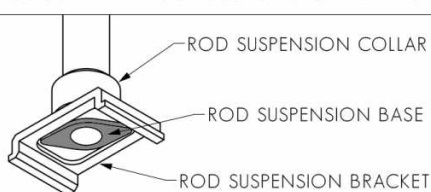

FIG. 4 - ENSURE SUSPENSION RODS ARE TIGHTLY SECURED
6. LIFT LIGHT ASSEMBLY AND INSERT SUSPENSION RODS INTO CEILING BRACKETS, STARTING WITH THE POWER SUPPLY END. ADJUST REMAINING ROD SUSPENSION POSITIONS BY LOOSENING COLLARS AND REPOSITIONING. LOCK RODS INTO CEILING BRACKETS BY TIGHTENING GRUB SCREWS. (SEE FIG. 4)